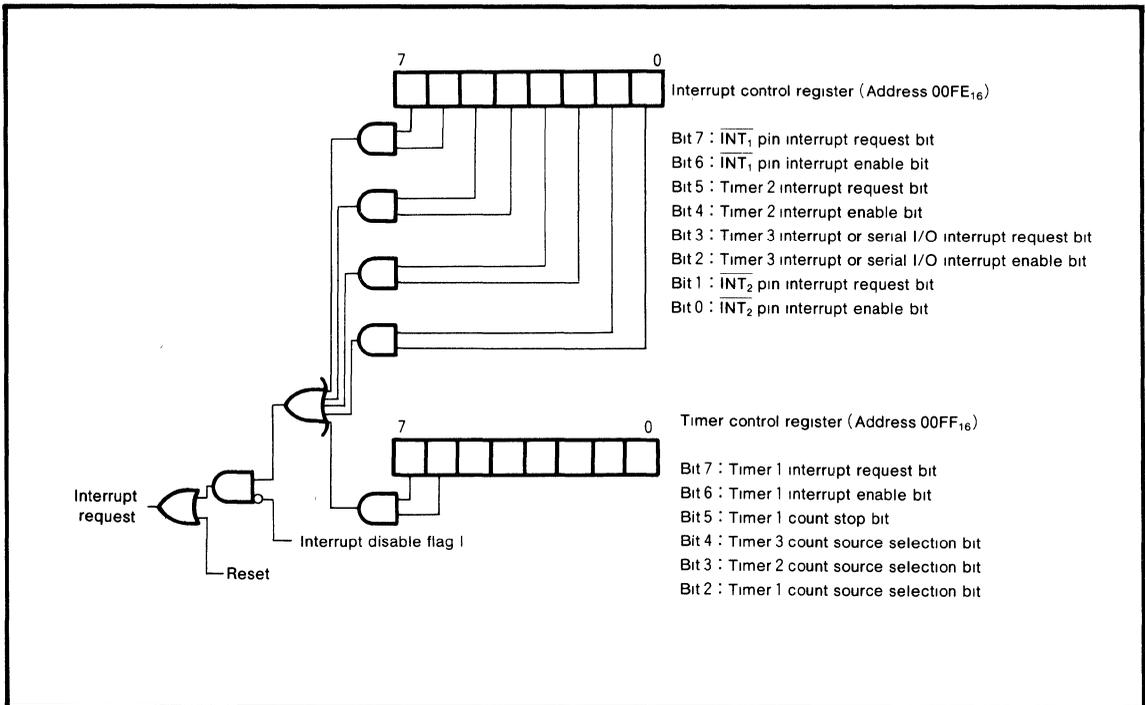

Fig.3 Interrupt control
When an interrupt is accepted, the contents of certain registers are pushed into specified locations, as discussed in the stack pointer section, and the interrupt disable flag (I) is set, and the program jumps to the address specified by the interrupt vector, and the interrupt request bit is cleared automatically. The reset interrupt is the highest priority interrupt and can never be inhibited. Except for the reset interrupt, all interrupts are inhibited when the interrupt disable flag is set to "1". All of the other interrupts except key on wake up function can further be controlled individually via the interrupt control register shown in Figure 3 An interrupt is accepted when the interrupt enable bit and the interrupt request bit are both "1" and the interrupt disable flag is "0". The interrupt request bits are set when the following conditions occur:
- (1) When the \overline{INT}_1 or \overline{INT}_2 pins goes from "H" to "L"
- (2) When the levels any pin of P2 goes "L" (at power down mode)
- (3) When the contents of timer 1, timer 2, timer 3 or the counter of serial I/O goes to "0"